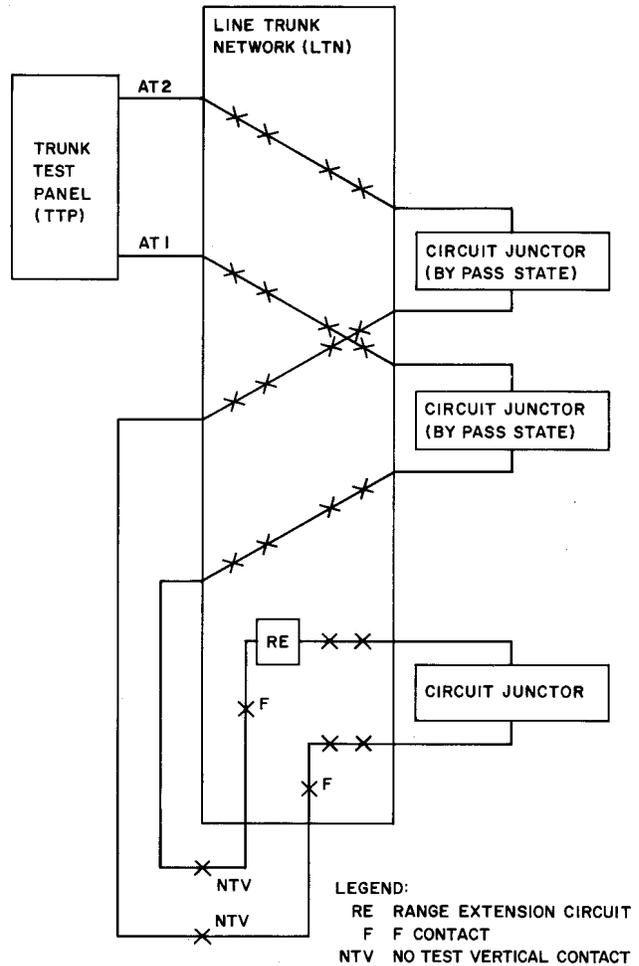

Fig. 1—Test Configuration Using Trunk Test Panel to Test a Range Extension Circuit
Note: Both sides of the RE unit to be tested are connected to the TTP. The connection must be initiated on access trunk (AT) 1, and AT 2 must be idle. AT 1 will control the peripheral decoder points of the RE unit, and AT 2 will control the peripheral decoder points of the circuit junctor the RE unit is connected through to the TTP. (See Fig. 1.)